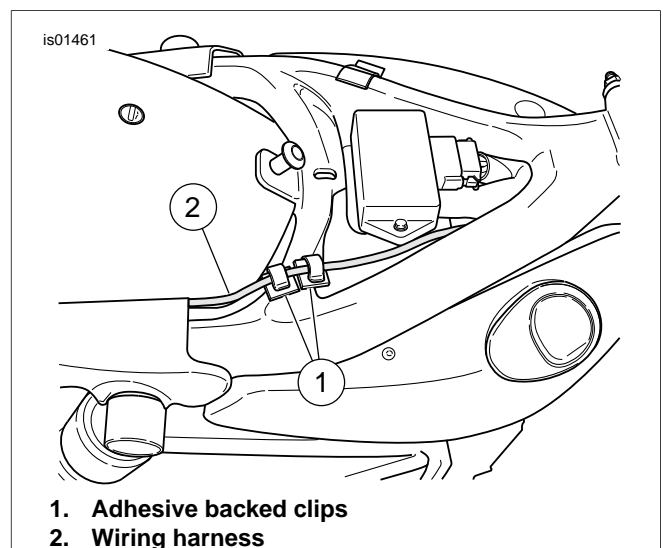

Figure 6. Harness Routing, 2004-2013 XL Models
2004-2013 XL models: See Figure 6. Route the lamp assembly wiring harness (2) along the fender support and the inside of the frame tube. Secure the wiring harness with adhesive-backed plastic clips (1) placed as shown.